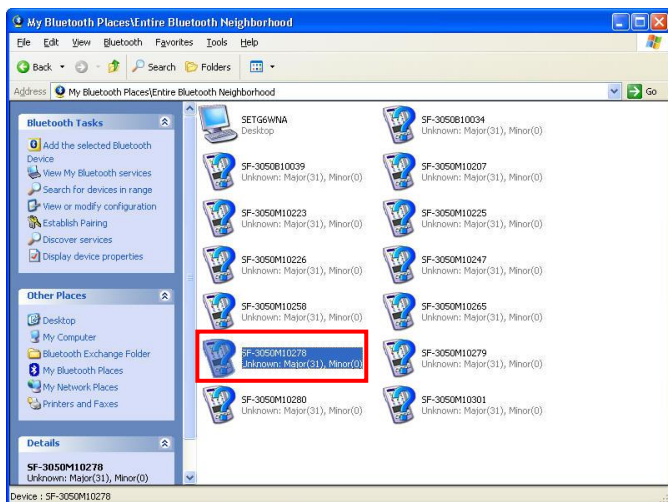
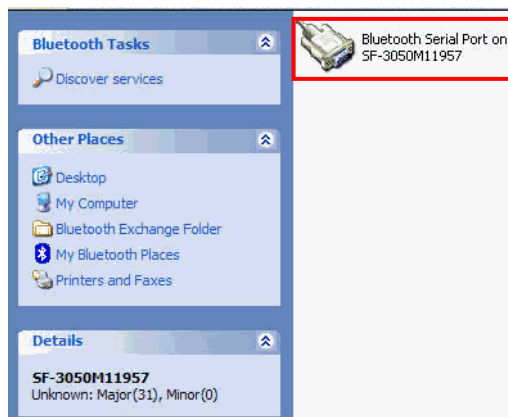

Figure 53: Bluetooth Devices in Range
Figure 54: Bluetooth Serial Port Icon
5. Double-click *Search for devices in range* on the *My Bluetooth Places* dialog box to display a list of the Bluetooth devices in range (refer to Figure 53).
6. Double-click the desired SF-3050 in the Bluetooth device list (see Figure 53). A Bluetooth serial port icon for the selected receiver is displayed (see Figure 54).